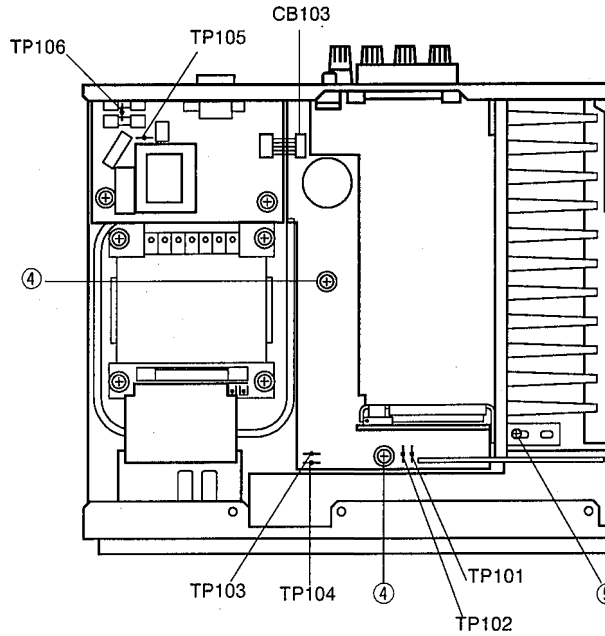

Fig. 2
- b. Remove 2 screws (④) and 1 screw (⑤) in Fig. 2.
- c. Detach 1 connector terminal (CB103) in Fig. 2.
- d. Operating checks can be taken by shorting between following test points in Fig. 2.